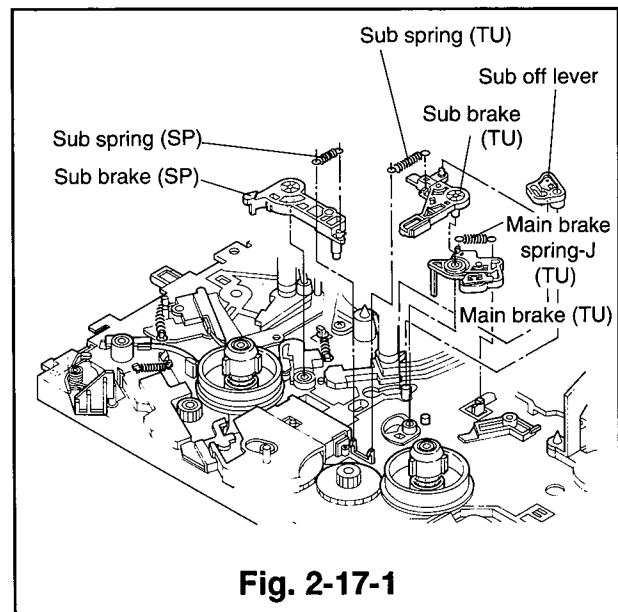

Fig. 2-17-1
- ① Remove the cassette housing. (Refer to Para. 2-1 for the removal method.)
- ② Remove the sub brake(SP) and the sub spring(SP). (Refer to Para. 2-14 for the removal method.)
- ③ Remove the sub off lever, the sub brake(TU), and the sub spring(TU). (Refer to Para. 2-16 for the removal method.)
- ④ Remove the main brake spring J(TU) and raise the main brake(TU) upward to remove it. (Refer to Fig. 2-17-1.)